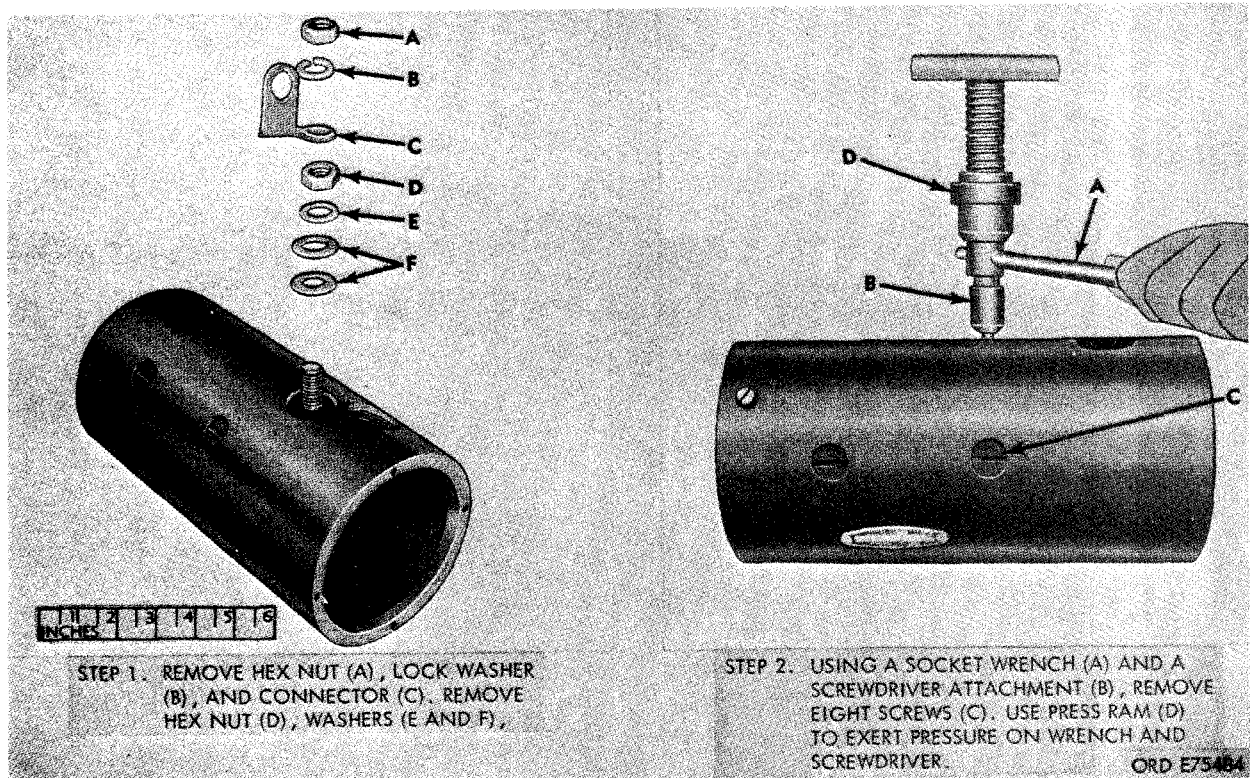
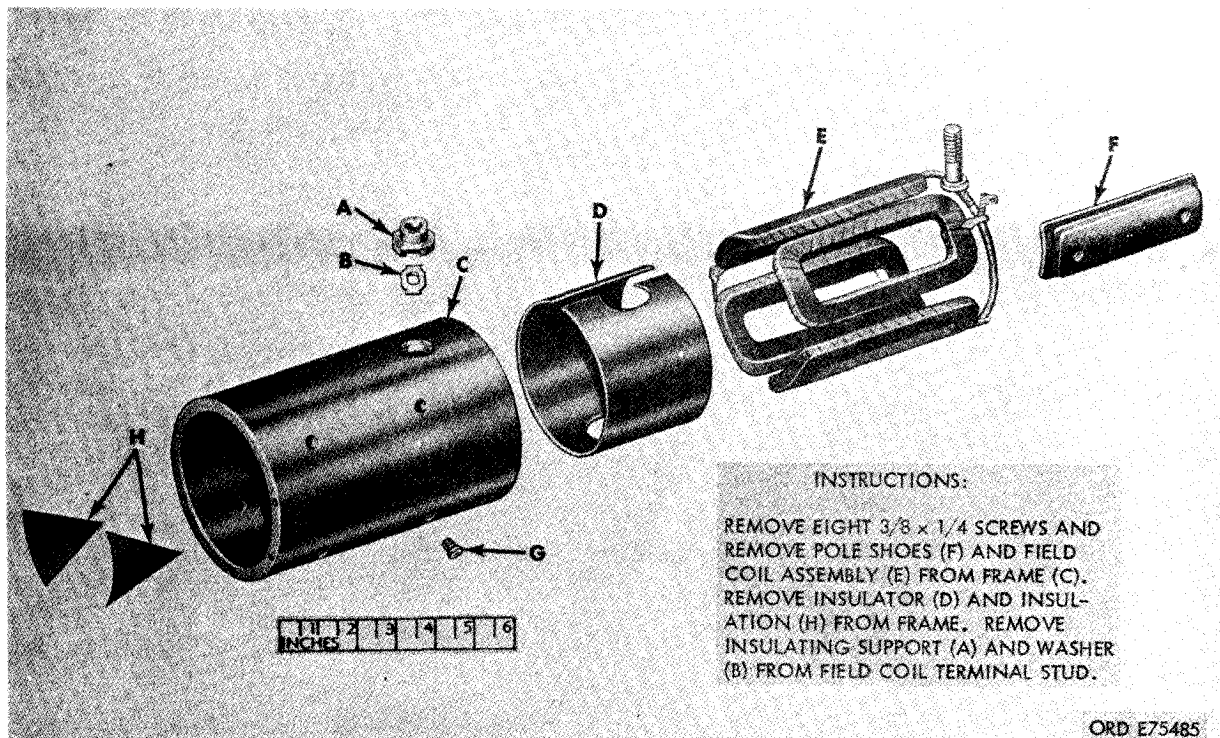

Figure 56. Removing field coils.
Figure 57. Field coils separated from frame.
Refer to figures 56 and 57 and disassemble the frame assembly.
*Note.* The key letters shown below in parentheses refer to figure 57 except where otherwise indicated.
*a.* Install washer (B) and support, (A) on field coil terminal stud and position field coil (E) in frame (C). Install insulator (D) and two insulations (H) between frame and field coils.
*b.* Position each of four pole shoes (F), in turn, on coil inside frame. Align mating holes and secure each pole with two pole shoe screws (G) (2, fig. 56). Coat threads of pole shoe screws with a suitable thread sealer before installation.
*Note.* The key letters shown below in parentheses refer to figure 56.
*c.* Install two nonmetallic washers (F), 0.520 ID., 7/8 OD., 0.031 thick flat washer (E), 1/2-inch hex nut (D), field coil terminal-to-solenoid relay connector (C), 1/2-inch lockwasher (B), and 1/2-inch hex nut (A).